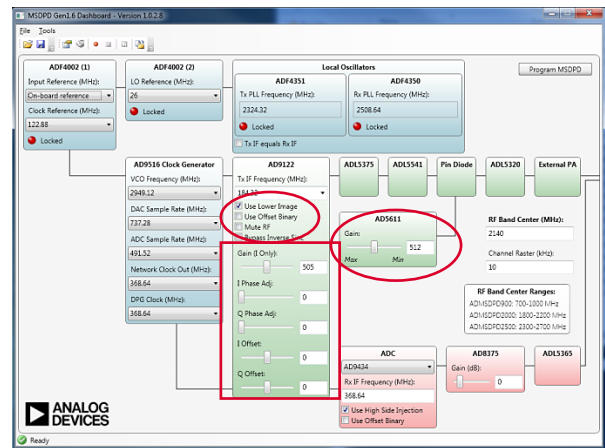

Figure 14. Tx Control
- To optimize the image rejection and LO cancellation at the TX output, enter the **Gain (I Only)**, **I Phase Adj.**, **Q Phase Adj.**, **I Offset.**, and **Q Offset.** values included on the board into the appropriate fields in the **AD9122** block on the MSDPD Dashboard front panel (see Figure 14).